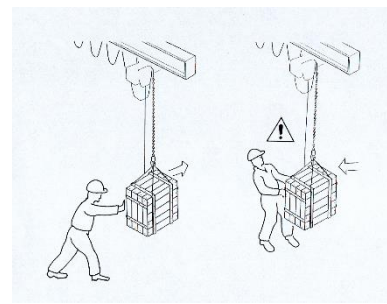

fig.63
- **During manual travelling and/or rotation manoeuvres of the arm** the operator must handle the load by pushing it and never by pulling it towards himself, to avoid the risk of crushing (fig.63).